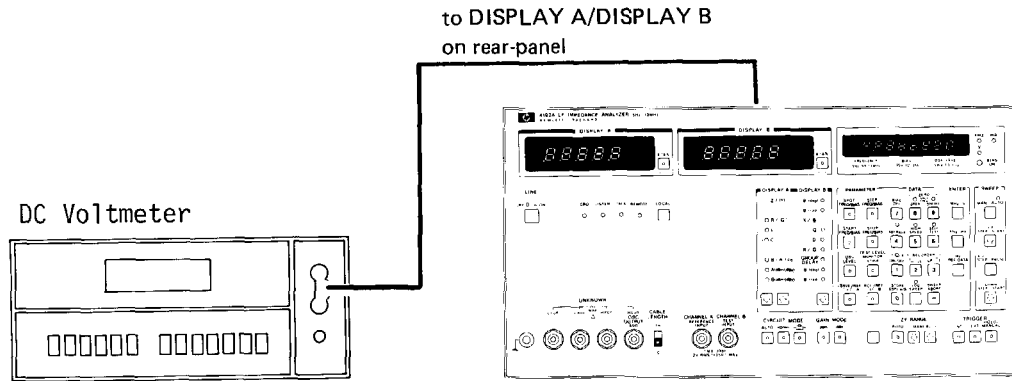

Figure 4-11. Recorder Output Voltage Accuracy Test Setup.
- a. Connect the INPUT of the 3455A to the DISPLAY A terminal on the rear panel of the 4192A as shown in Figure 4-11.